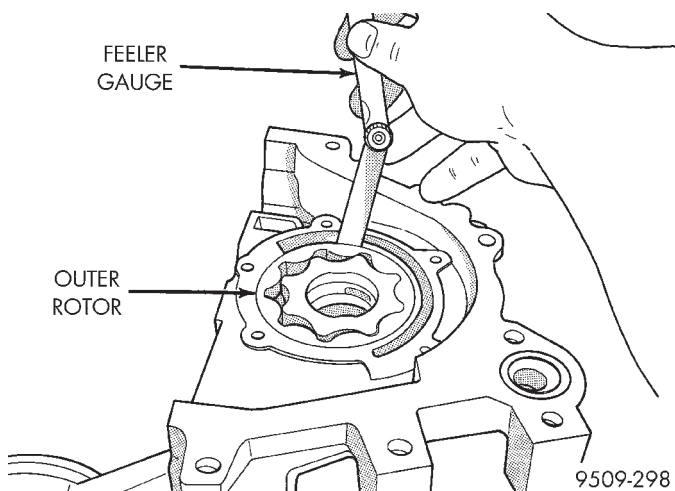

Fig. 96 Measuring Outer Rotor Clearance in Housing
(5) Slide outer rotor into pump housing, press to one side with fingers and measure clearance between rotor and housing (Fig. 96). If measurement is 0.39 mm (0.015 inch.) or more, replace housing only if outer rotor is in specification.